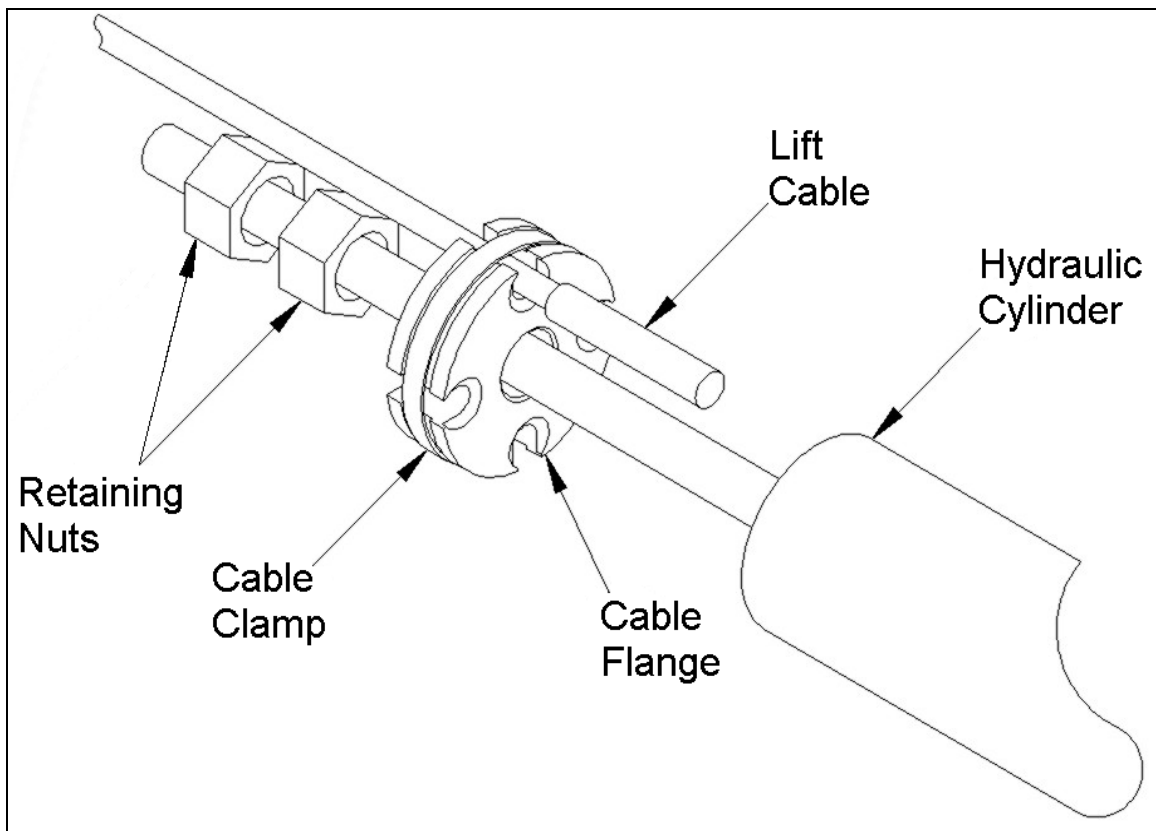

Figure 5. Cable Installation at Flange
- Ensure that the cable flange is installed with the counterbores facing towards the hydraulic cylinder. See Figure 5.
- Tighten the hose clamp on the cable flange to secure all the cables. Ensure that the two retaining nuts are positioned as shown in Figure 5. Using two wrenches, lock the retaining nuts against each other.
Refer to Figure 5 for electrical connections.